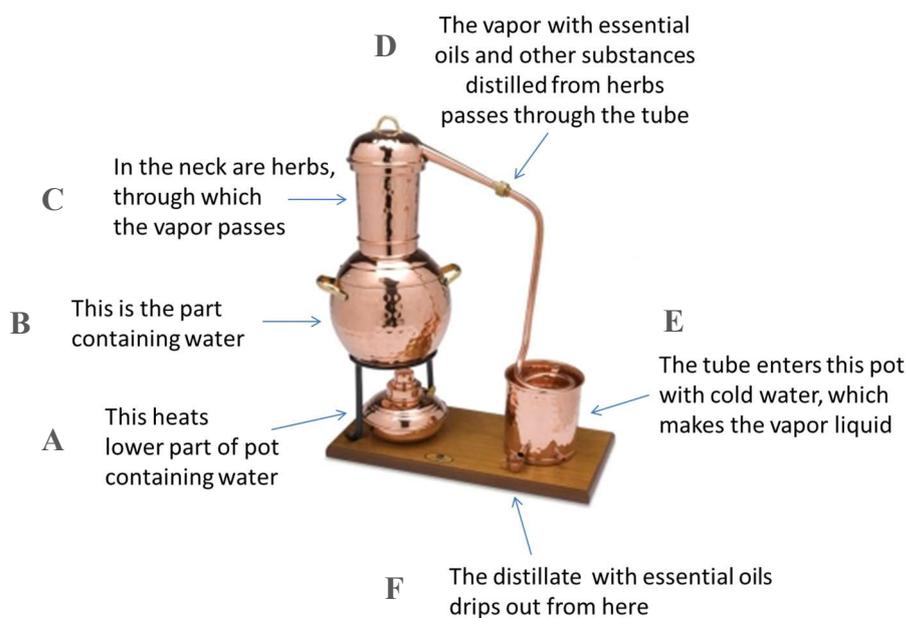

Fig. 3.11. Alembic for making essential oils⁴⁹.
When obtaining from the plant material poorly water-soluble essential oils, typical straight distillation is not used due to the possibility of organic matter decomposition during high heating - steam distillation is used instead (Fig. 3.11). The figure shows a modern version of the alembic (already known to the alchemists), not the typical laboratory equipment. The water (B) heated by the burner (A) becomes water vapor and removes particles of volatile organic compounds from the biological material (C). The mixture obtained in this way is pumped through a tube (D), condensed (E) and collected into a distillation receiver (F).